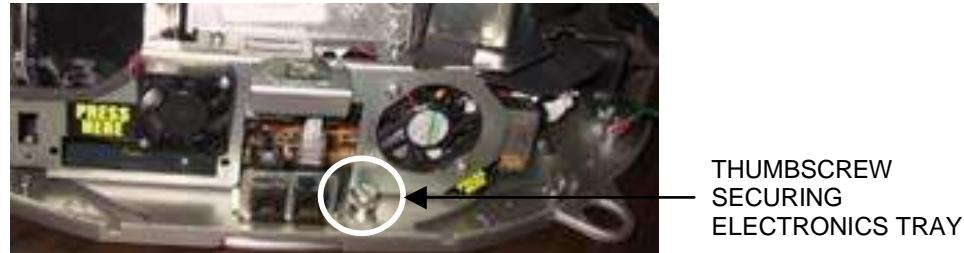
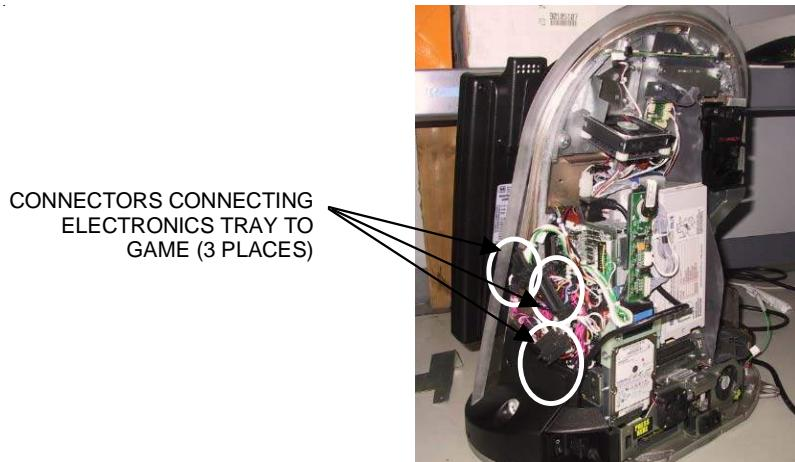
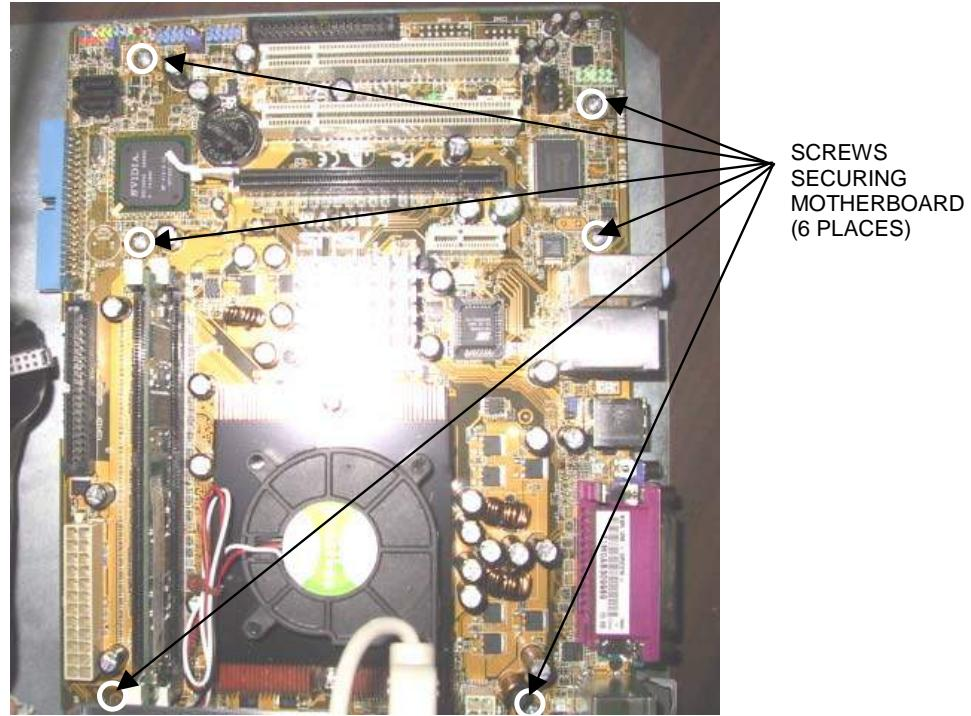
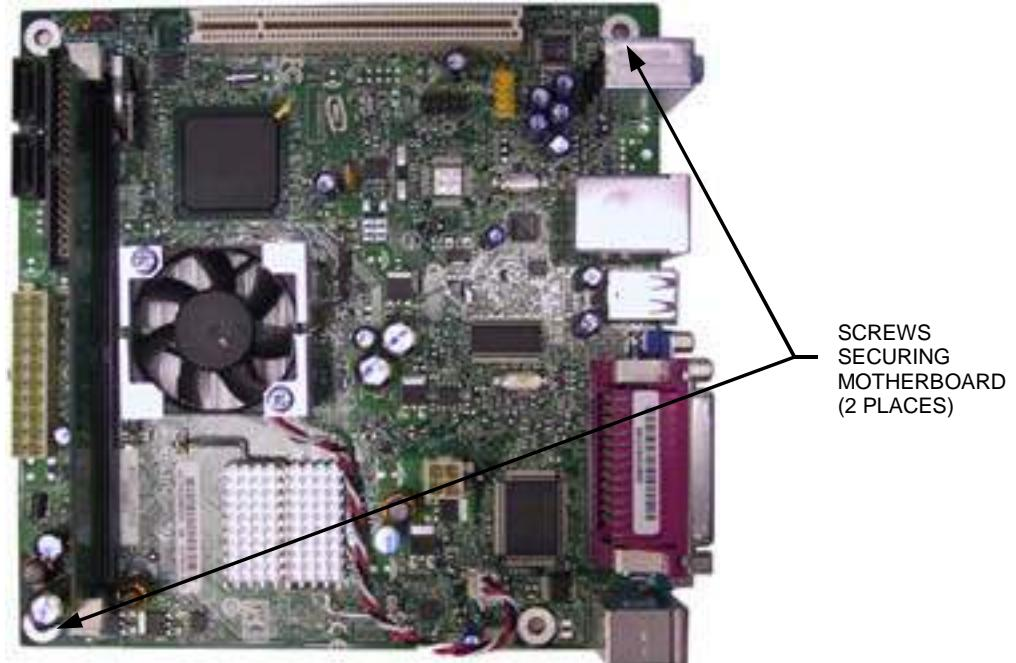

FIGURE 4 - REAR VIEW OF ELECTRONICS TRAY
FIGURE 5 - REAR VIEW OF GAME
FIGURE 6 - SCREWS SECURING MOTHERBOARD TO GAME
FIGURE 7 - SCREWS SECURING MOTHERBOARD TO GAME
6. Remove the electronics tray by unscrewing the thumbscrew located in the middle of the rear of the tray and sliding the tray out. See Figure 4.
7. If applicable, disconnect the three black connectors (10-, 11- and 12-pin) connecting the electronics tray to the game in order to slide the tray out further (see Figure 5). If your game does not have these connectors, the harness is long enough to remove the tray.
8. Move the hard drive/power supply tower out of the way of the motherboard by tilting it on its hinge 90 degrees to the left and supporting (if necessary). Remove all motherboard connections, noting their positions, and unscrew the motherboard in 6 places on a standard Aurora (see Figure 6), or in 2 places on an Aurora Widescreen (see Figure 7). Remove the motherboard from the tray.
1. Situate the new motherboard on top of the fish paper, and secure to the electronics tray with 6 screws in a standard Aurora (see Figure 6) or 2 screws in an Aurora Widescreen (see Figure 7).
2. Restore all motherboard connections. Restore the hard drive/power supply tower to its upright position, and slide the electronics tray back into place, making sure that the connectors on the back of the hard drive bracket click into the connectors on the wall of the game, if applicable (see Figure 7). If you disconnected three connectors from the electronics tray to the game (see Figure 5), reconnect them. Secure the tray by screwing in the thumbscrew. See Figure 4.